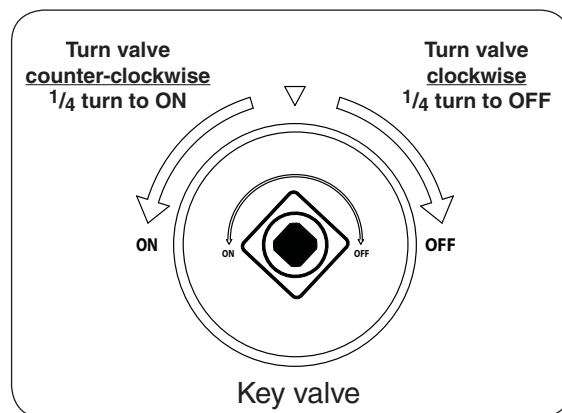

Fig. 39-2
- 4. **Once the match is burning and in position**, turn the key valve counter-clockwise a $\frac{1}{4}$ turn to the **ON** position (see Fig. 39-2). Your burner should light.
To extinguish your gas burner, turn the key valve clockwise a $\frac{1}{4}$ turn to the **OFF** position (see Fig. 39-2). Be sure the key valve is turned fully off to avoid any gas leakage.